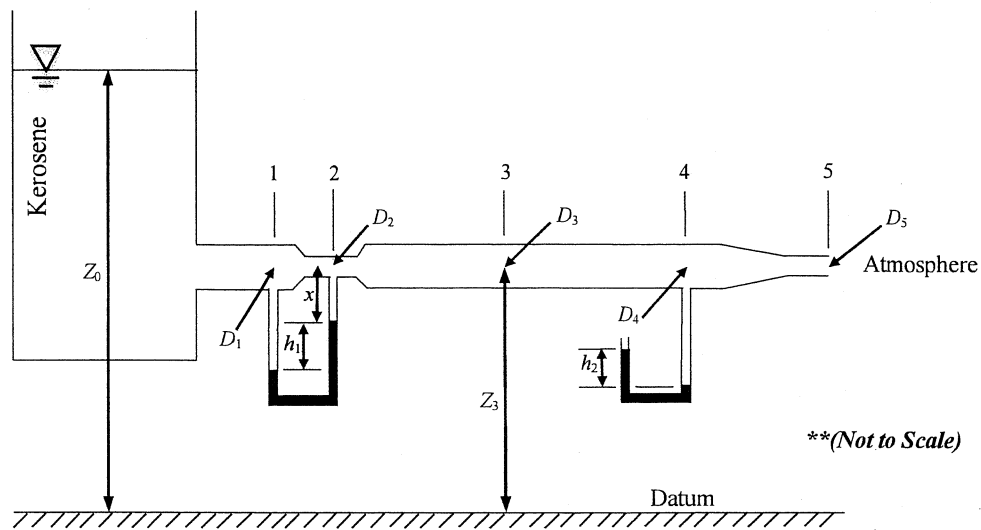

Figure 3
6. A flow of kerosene ($\rho = 800 \text{ kgm}^{-3}$) goes through a *horizontal* pipe as shown in Figure 3. The outflow is to the atmosphere.